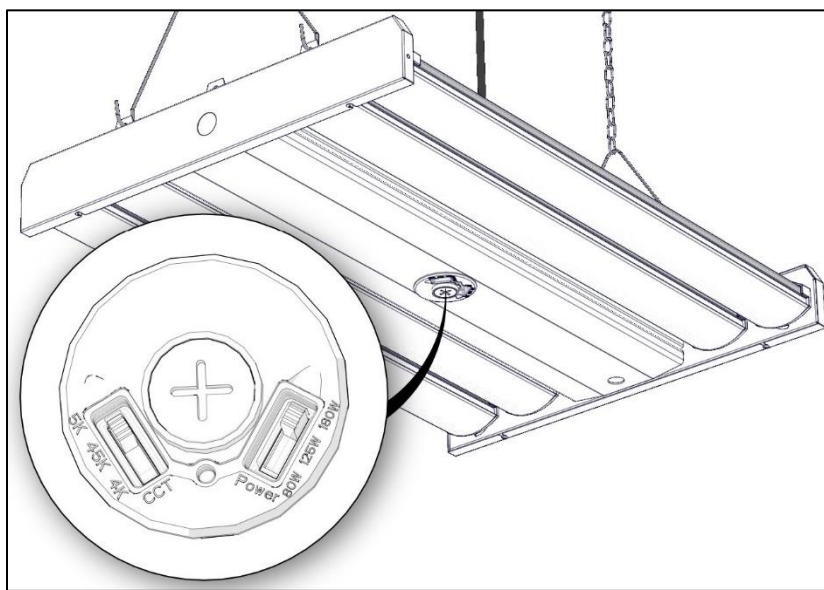

Figure 8
13. The CCT or Power adjustment switches are located on the receptacle. Remove the rubber cover of the receptacle to access the switches. Adjust to the desired settings and replace the rubber cover. (Figure 8)